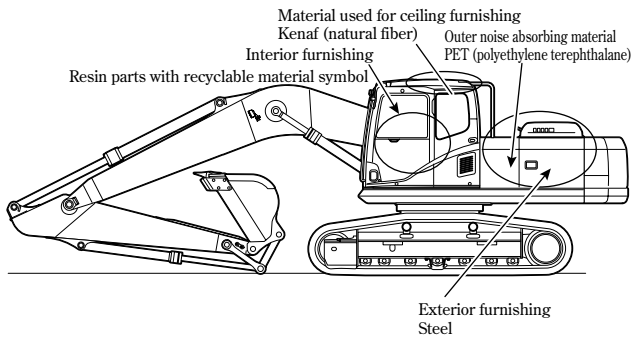

Fig. 12 Production Materials Keeping Recycling in Scope
(2) Our approach to lowering the ambient noises was to first combat a noise source and prevent generated noises from leaking out. To counter a noise at its source, a bell mouth shroud has been adopted, which is useful to bring down a wind-cutting noise caused by engine fan revolution. To reduce noises from the engine itself, noise absorbing or shut-off materials have been used. Meanwhile, an adoption of a large capacity and large swing motor has helped lower hydraulic as well as mechanical noises generated at the time of swing. Furthermore, the doors of exterior parts adopted a structure of dual sheet plates lined with noise absorbing material. Thanks to all these improvements, the PC200-7 has successfully attained 102 dB(A) sound power level as against 106 dB(A) stipulated in the noise level standard for 1997 by The Ministry of Land, Infrastructure and Transport. It has also conforms to the EU regulations.
(3) In Economy Mode of the fuel selector, the CO₂ gas emission amount has dropped by 20% compared with Active Mode, an achievement worth being called Environmental Mode.
- (4) The last innovation in this area is a change in the used materials in consideration of recycling afterwards. For noise absorbing material, polyethylene terephthalate is employed, which is a material used for manufacturing PET bottles. For a material covering the cab ceiling, Kenaf, a natural fiber, is used. Finally resin parts in use are all numbered. (See Fig. 12)